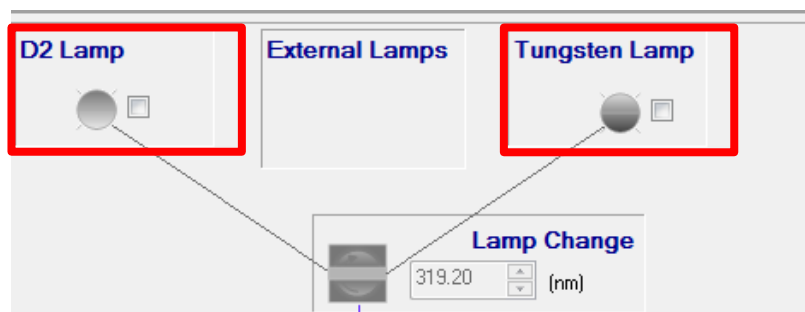

Figure 16: Unchecked D2 Lamp and Tungsten Lamp on Data Collection tab.
1. In the *Data Collection* tab, uncheck the D2 Lamp and Tungsten Lamp before closing the program (shown in Figure 16).